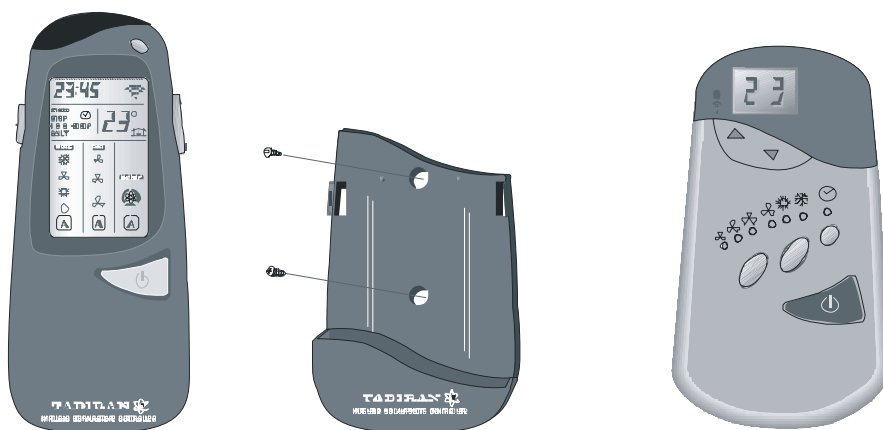

Fig. 6-8
- Remove the two units illustrated in Figure 6-8 from their packaging.